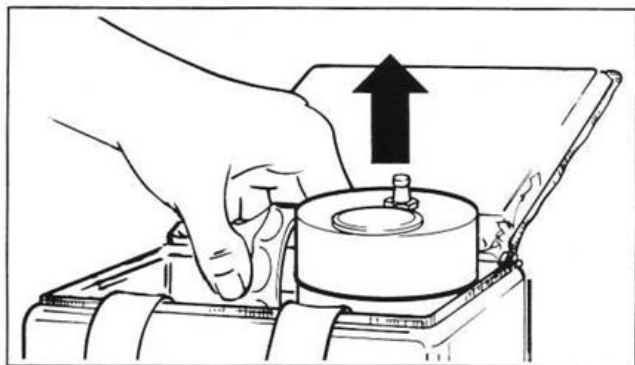

Figure 2. Removing Mixer from Case.
2. Remove the mixer assembly from the carrying case as shown in Figure 2. Remove small red caps.